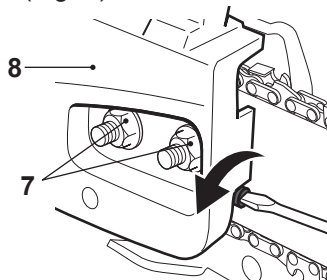

Fig. 5
- > Ensure the saw chain (3) is loose, turn the tension screw anticlockwise with a screwdriver, if required (Fig. 5).